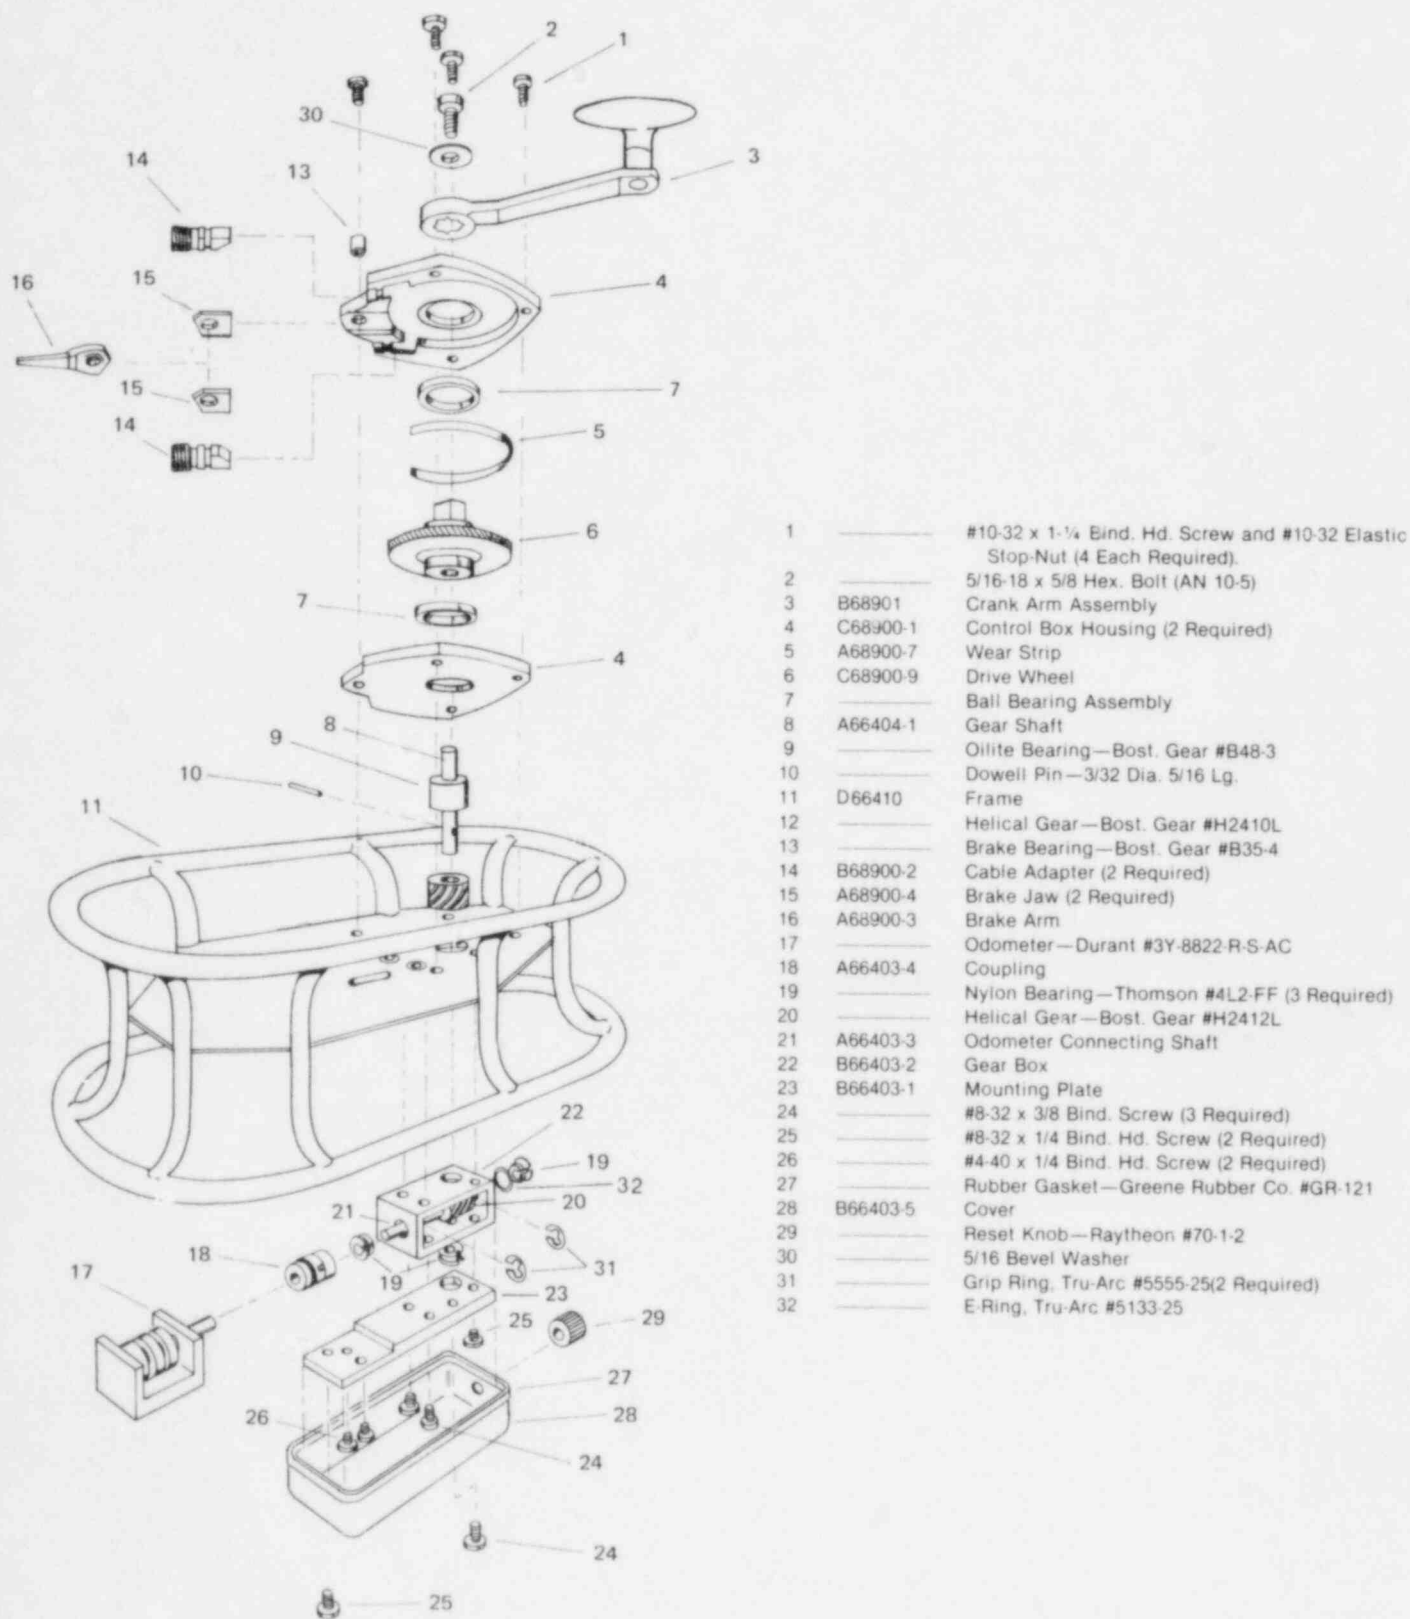

Figure 7.2 Model 664 Control Unit--Exploded View
1. Remove the control housing and drive cable from the crank assembly as described in the previous section. Refer to Figure 7.2 to aid in disassembly and for component identification of replacement parts.
2. Remove the control box housing (4) from the frame (11) by unscrewing the four binder head screws and  $\frac{3}{8}$ " nuts (1).
3. Remove the crank arm assembly (3) from the control box housing by removing the  $\frac{5}{16}$ " hex head bolt (2).